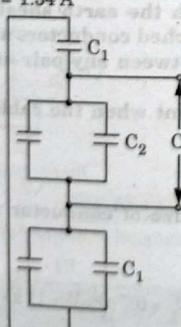

Fig. 5.12.2.
- The equivalent circuit for measuring capacitance between two bunched conductors and third conductor will be as in Fig. 5.12.2.